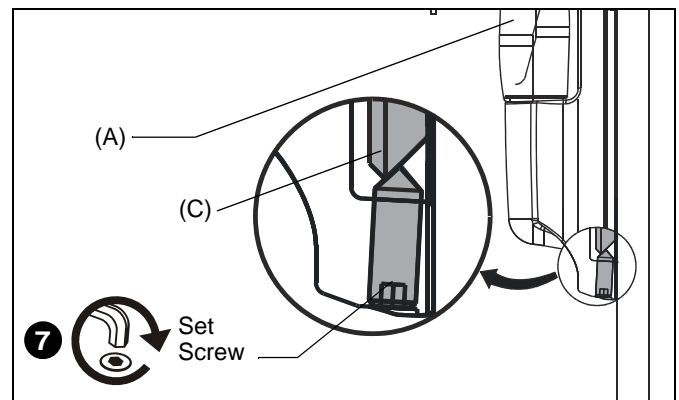

Figure 3
7. Tighten set screw in bottom of wall mount. (See Figure 3)